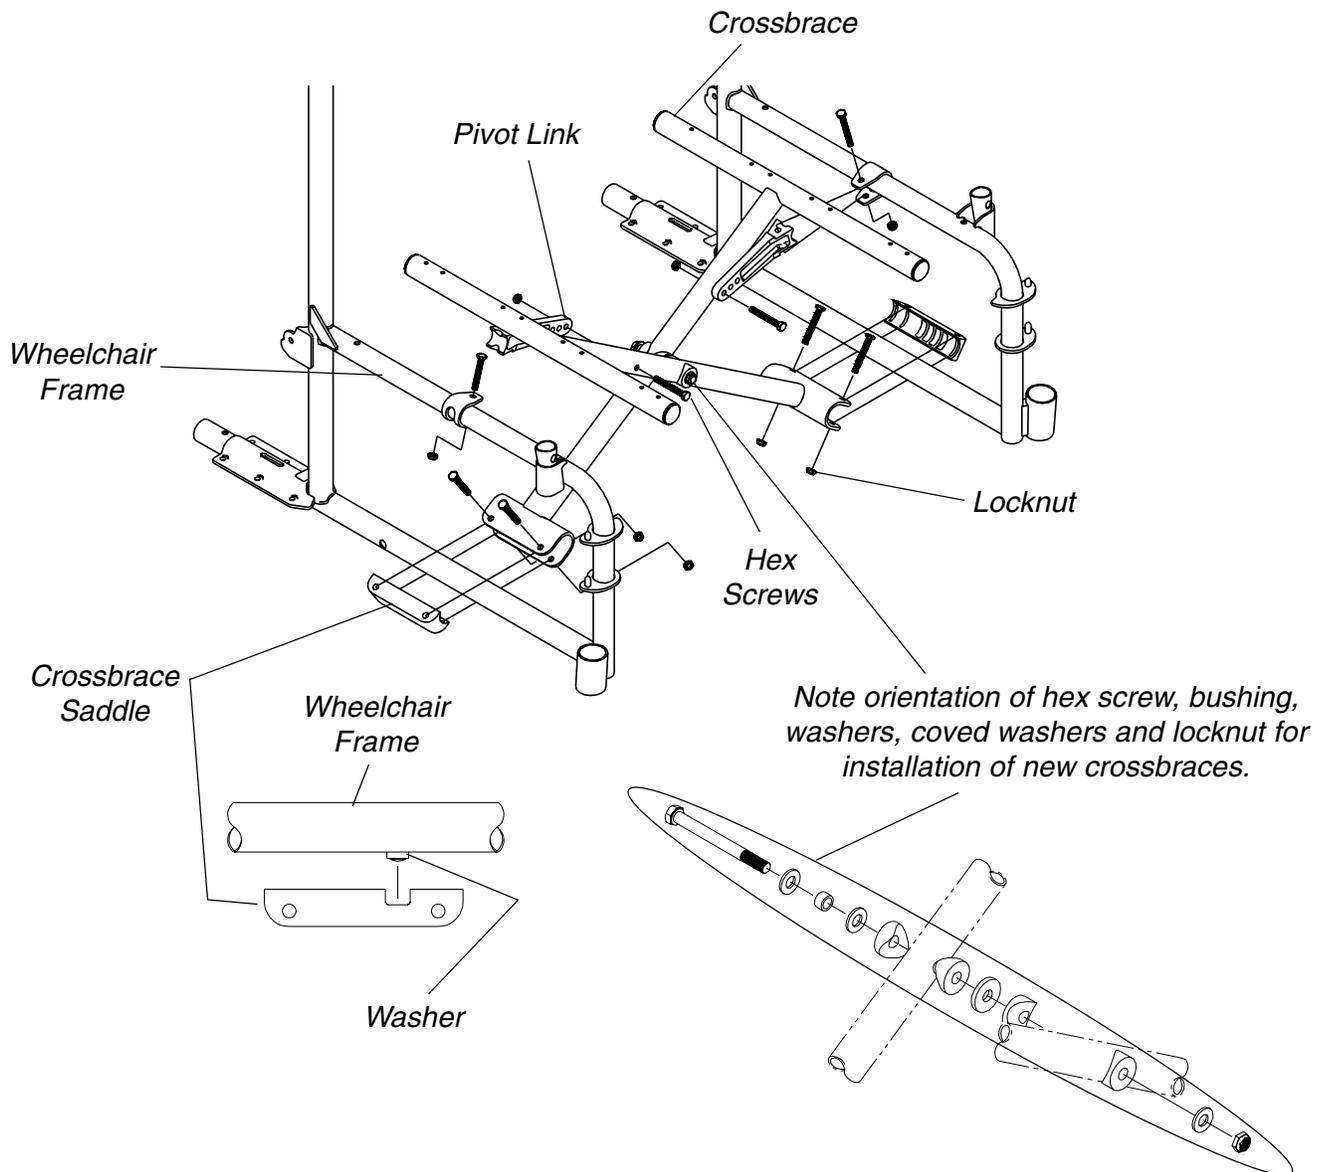

FIGURE 1 - ADJUSTING SEAT WIDTH
ADJUSTING SEAT WIDTH (FIGURE 1)
6. Assemble the two (2) new crossbraces together. Refer to FIGURE 1 for hardware orientation.
7. Reinstall the hex screws, locknuts and crossbrace saddles that secure the bottom of the two (2) new crossbraces to the wheelchair frame.